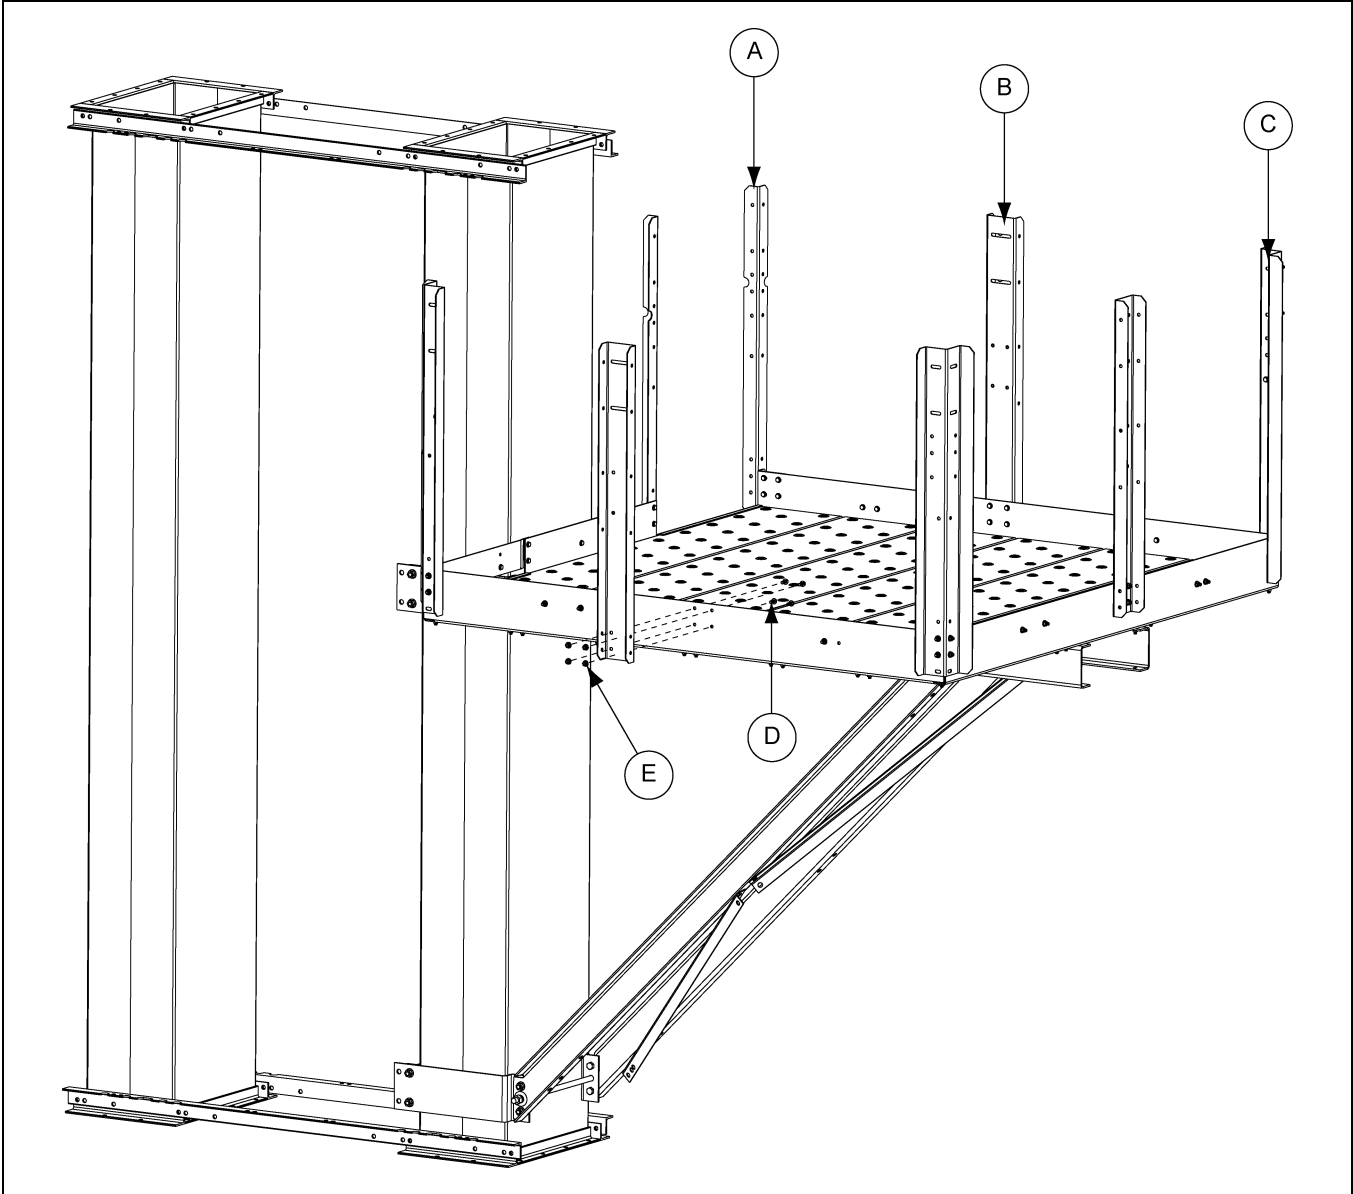

Figure 13H
Figure 13H shows the assembly of three (3) “W” corner posts (HP1648HWP) (C), three (3) platform posts (HP1648HCP) (B) and two (2) safety gate side posts (HP1648HP) (A). This must all be assembled using 5/16” hardware (S-6606 and S-3611) (D and E).